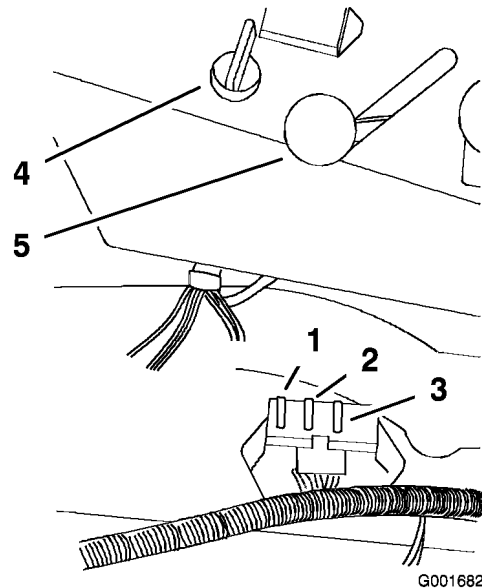

Figure 38
1. Raise the seat to gain access to the fuse holder (Figure 38).
3. Install a new fuse (Figure 38).